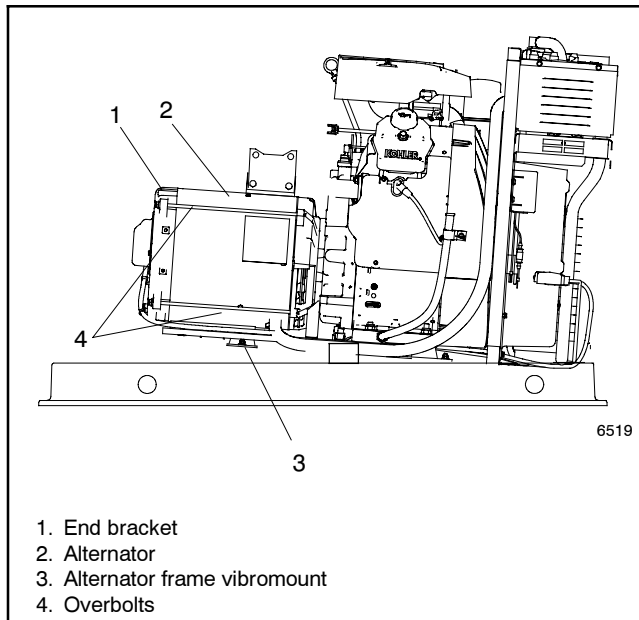

Figure 6-19 Generator Set, Right Side
- a. Align the stator so that the alternator frame vibromount points down toward the generator base. See Figure 6-19. Install the stator assembly around the rotor.